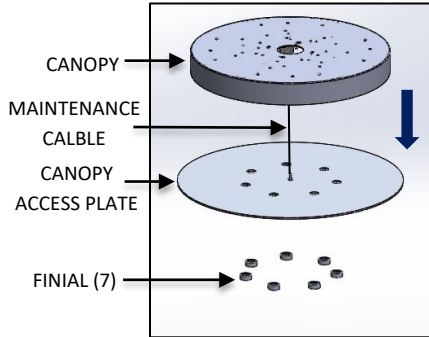

FIG. 5 – CANOPY ACCESS PLATE DIS-ASSEMBLY
1. Dis-assemble the FINIAL (7) and leave the canopy access plate supported by the maintenance cable attached to the CANOPY ASSEMBLY and feed the building supply wire into the hole in the CANOPY as it is raised up to the ceiling as shown in below fig. 5.